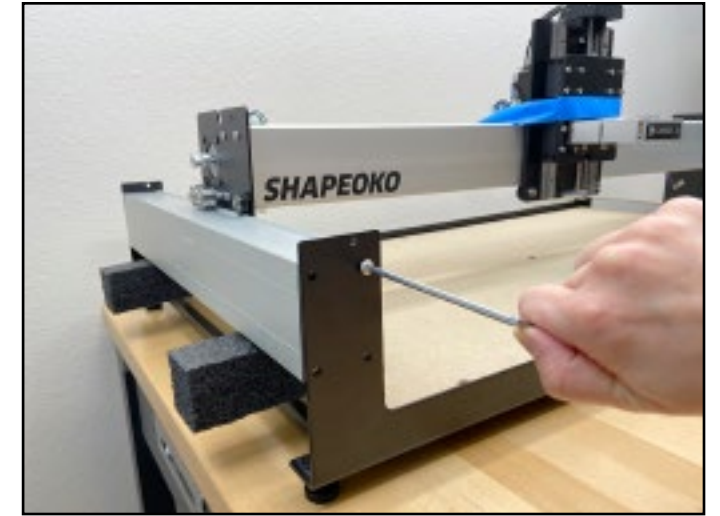

Figure 4-8
1. Prop up the Y1-rail with the two foam packing blocks from the Y-Axis Left and Right Assembly boxes. See **Figure 4-8**.
2. Line up the Y1-rail screw holes with the front and rear endplate through-holes. See **Figure 4-8**.
3. Use the 4mm hex key and two (2) M6x12mm button head cap screws to loosely secure the Y1-rail to the **UPPER-INSIDE** mounting holes in the front and rear endplates. See **Figure 4-8**.